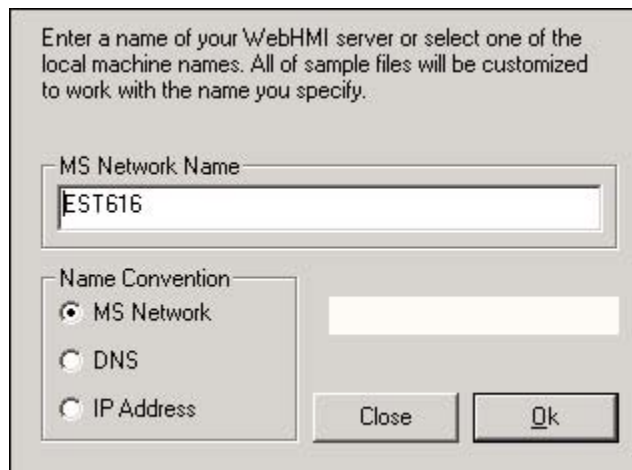

Figure 2.17. Specifying the WebHMI Server Host Name
10. After all of the necessary system files have been copied, a dialog box will appear, as shown in **Figure 2.17**. Enter the name of your WebHMI server or select a local machine name. Customize your application by selecting one of three choices under **Name Convention**: